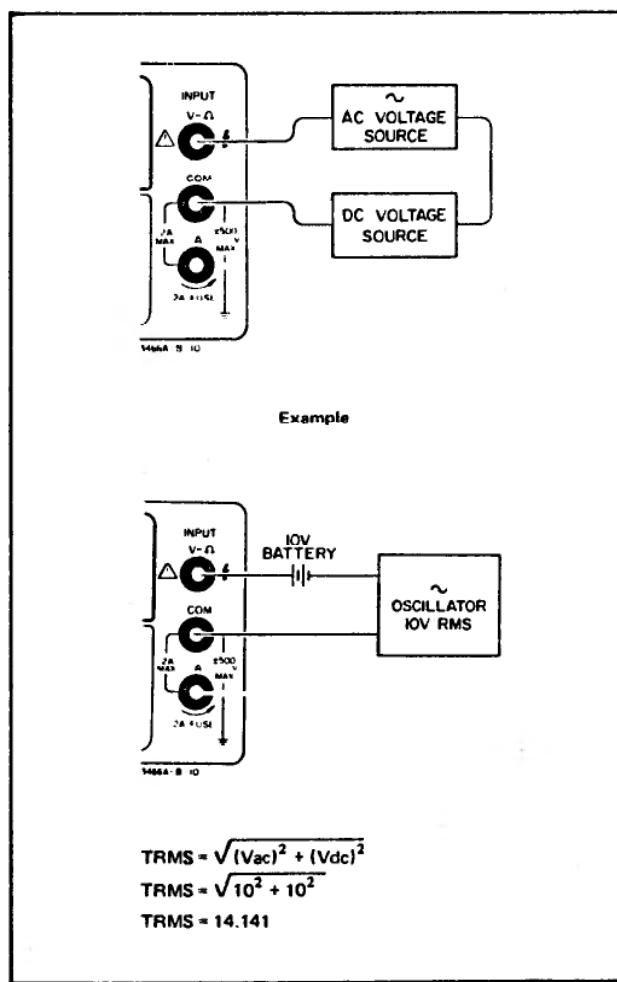

Figure 3-7. True RMS (dc + ac) Voltage Measurements
- Connect test leads from the Multimeter VΩ (high) and COM (low) terminals to the Voltage under test as shown in Figure 3-7.